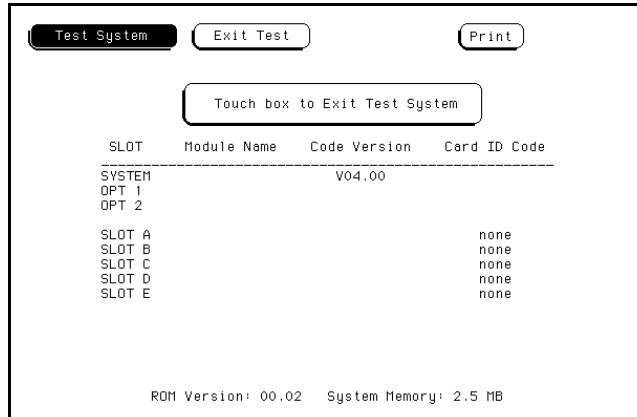

Figure 6-16. Reloading the Mainframe System
4. Verify that the operating system software is installed in a disk drive. Touch the field close to the center of the screen to exit the test system and to load the mainframe operating system. See figure 6-16. After the operating system is loaded, the System Configuration menu is displayed.